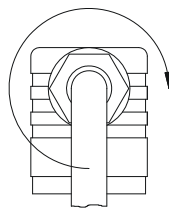

Fig. 11
- ↪ Press the core ⑧ into the cable socket ② until it locks into place.
- ↪ Put the central screw ⑥ in the cable socket ② and tighten the screwed cable gland ⑤ M16x1,5 (⇒ Fig. 11).